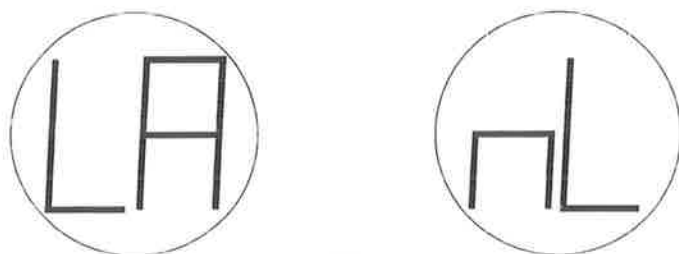

figure 20
- The display will alternate between “LA” and “nL” (figure 20), until the magnet is re-applied. Apply and remove the magnet when the desired option appears on the display. “LA” stands for Latching and “nL” stands for Non-Latching. When this selection has been made, the next option will appear.
- The Latching/Non-Latching option for the Alarm relay will be displayed as in figure 20.